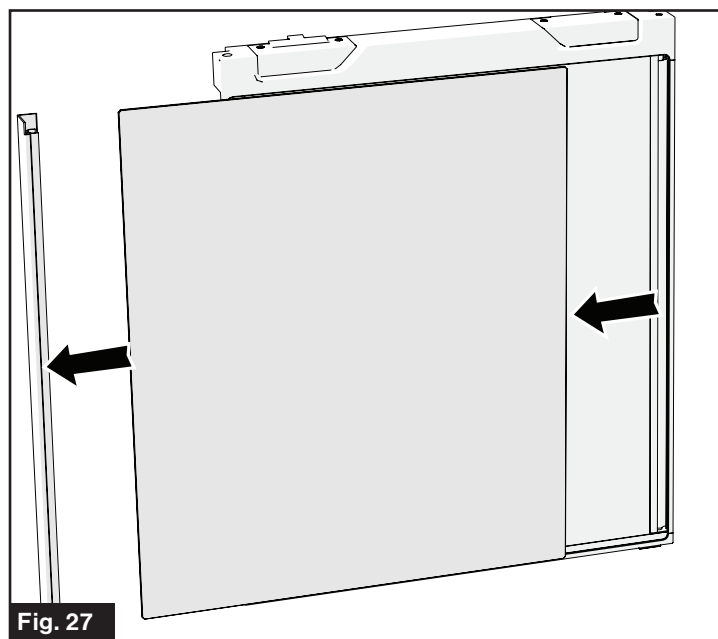

Fig. 27
1. Pull out the Side Cover. (Fig. 27)